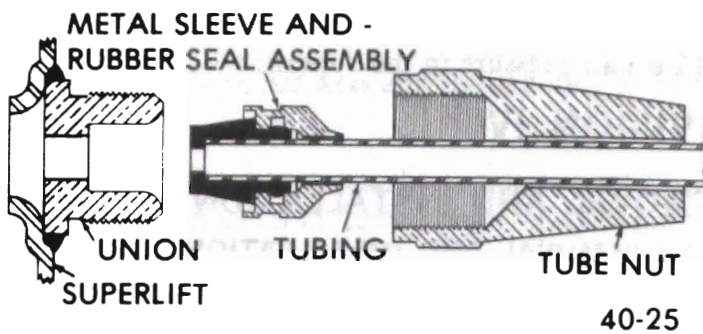

Figure 40-28 - Fitting Nut and Seal
f. Flexible air lines are used throughout the system. The line is 1/8" diameter tubing. Each fitting consists of a rubber seal, metal sleeve and nut. See Figure 40-28. These parts are intended specifically for the 1/8" diameter line and must be used to effect a reliable seal.
1. Preassemble metal sleeve and rubber seal. See Figure 40-28.